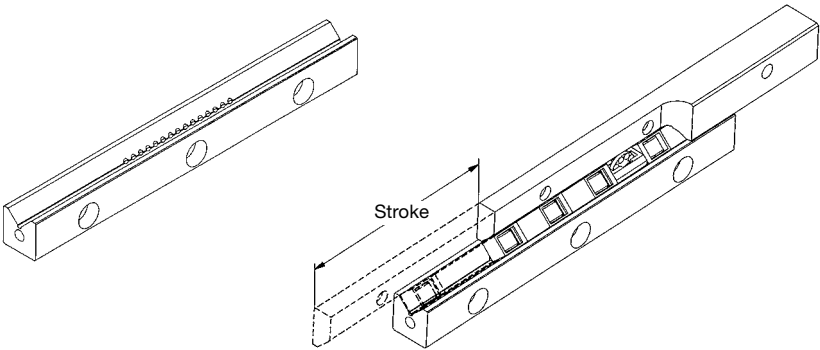

fig 11B
LWRE ACS rail guides for **specified travel** of the rail system (see fig 11B):
- (see fig 11B)